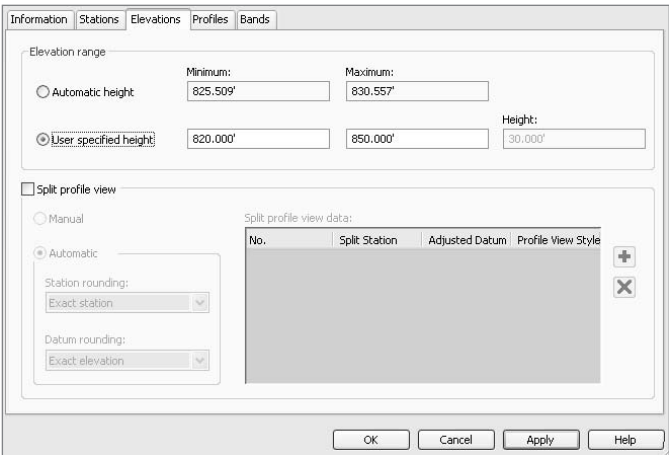

Figure 9.25
9. Enter **820** for a Minimum value and **850** for a Maximum value as shown in Figure 9.25.